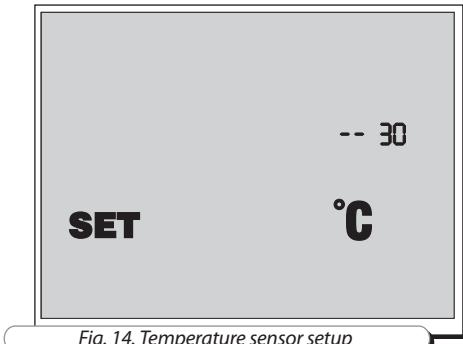

Fig. 14. Temperature sensor setup
- After activation of the setup mode the wall-mounted control panel displays the duct temperature sensor settings, fig. 14.
- Press the button (M) to review the current temperature sensor readings.